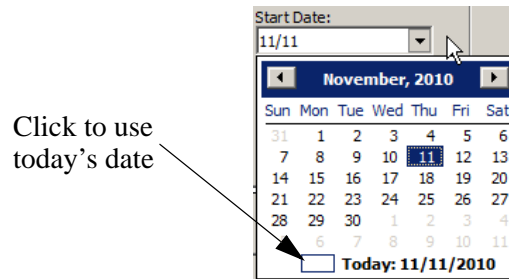

Figure 9-15: Date Selection Calendar
- **Start/Stop Date** - This is a range of dates in which to play this message when the **Use Restricted Dates** checkbox is checked. Selecting this box will open a calendar box as shown Figure 9-15.